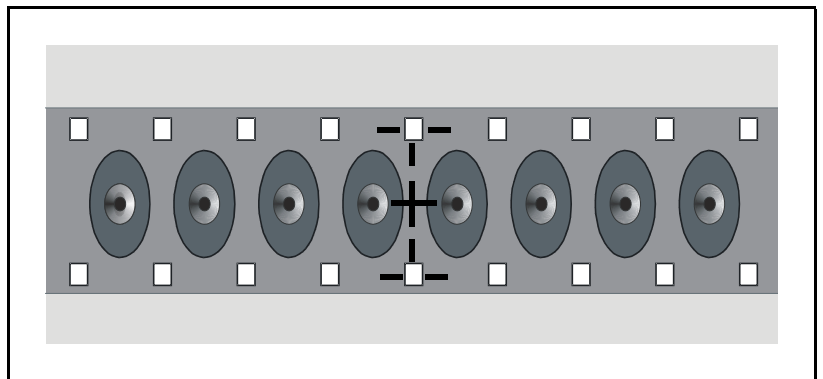
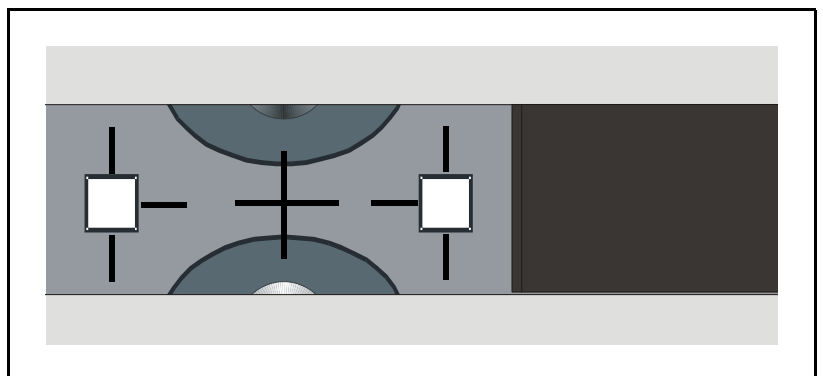

Figure 4-24. Align HYDRA reference background using HC2.
Figure 4-25. Align HYDRA reference background using LSC.
- When prompted, use the trackball to position the two small red crosses to be in the middle of the white reference points (see Figure 4-24 and Figure 4-25 for HC2 respective LSC).